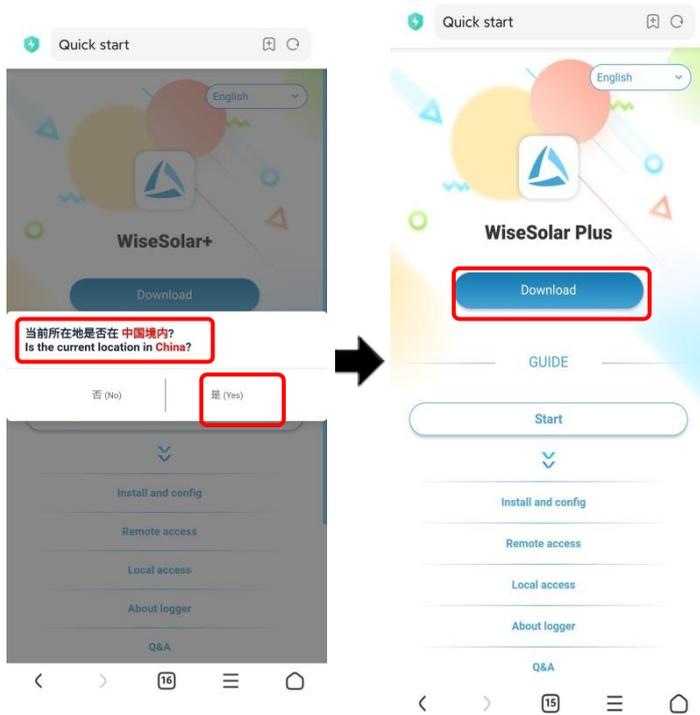

Figure4-2 Download APP
Step 2 When pop-up **Is the current location in China?**, select **Yes**, and select **Download**, as shown in Figure4-2.